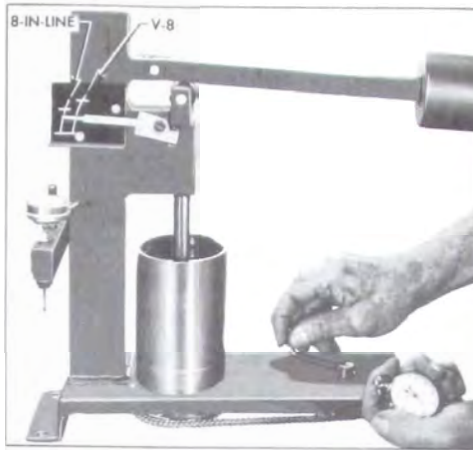

Figure 2-34—Checking Leakdown Rate
4. Lower the ram to rest in the lifter push rod seat, then lower the weight arm to rest on the roller or ram as shown in Figure 2-34.
6. Raise weight arm to allow the lifter plunger to come up to its retainer, then lower the arm to rest on the ram roller. As the pointer starts moving upward start rotating the fluid cup by turning the handle one revolution every two seconds. See Figure 2-34.